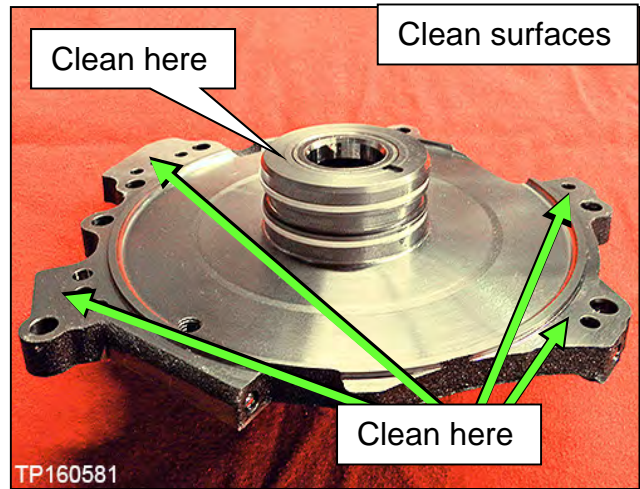

Figure 116
- a. Clean the dummy cover surfaces that contact the CVT case and thrust bearing (Figure 116).